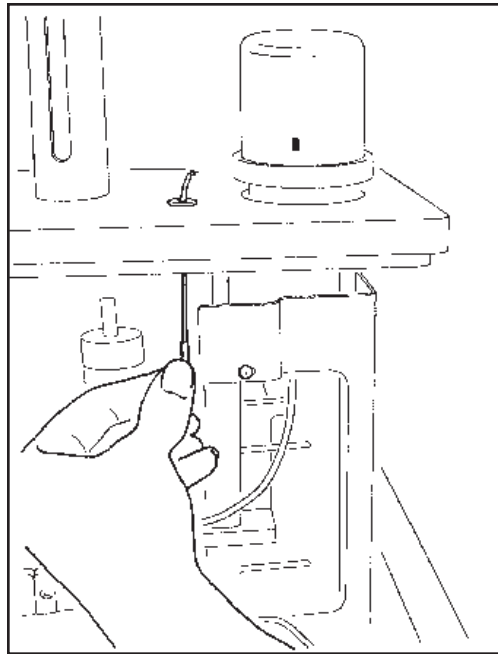

Figure 2.6
2. Carefully thread the thermocouple, tip first, up through the hole in the top of the balance enclosure. (See Figure 2.6.)